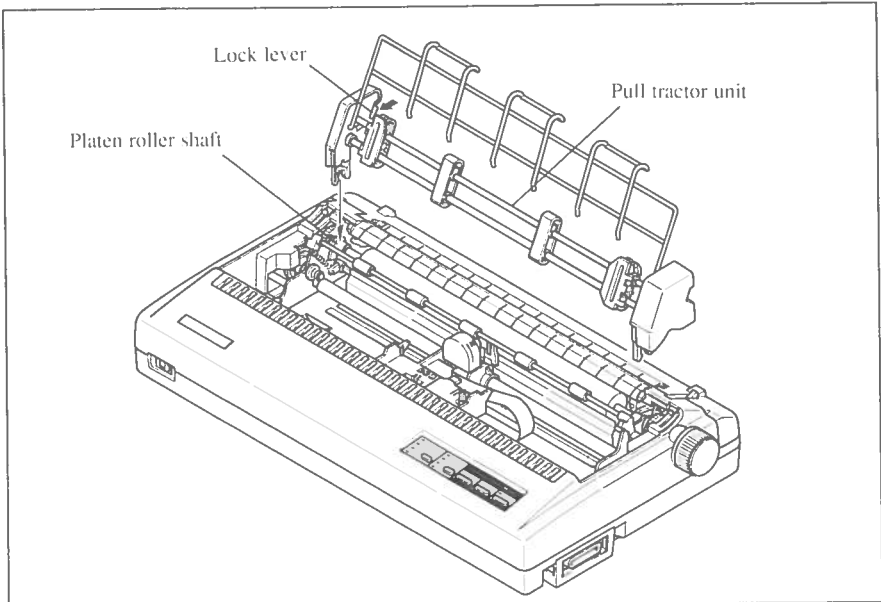

Figure 1-14. Mounting the optional pull tractor unit
2. Mount the optional pull tractor unit onto the printer. Grip the lock levers on both side and push the unit downwards onto the platen roller shaft to fit the tractor grips, as shown in Figure 1-14.